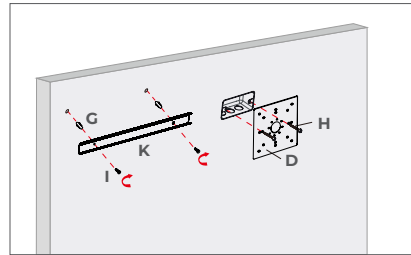

FIGURE 1-3
- 3) Insert anchor "G" into hole and secure the mounting bracket "K" with screw "I" (Figure 1-3)
- 4) Mount the square cover plate D onto junction box with screw "H", then plastering. (Figure 1-3)